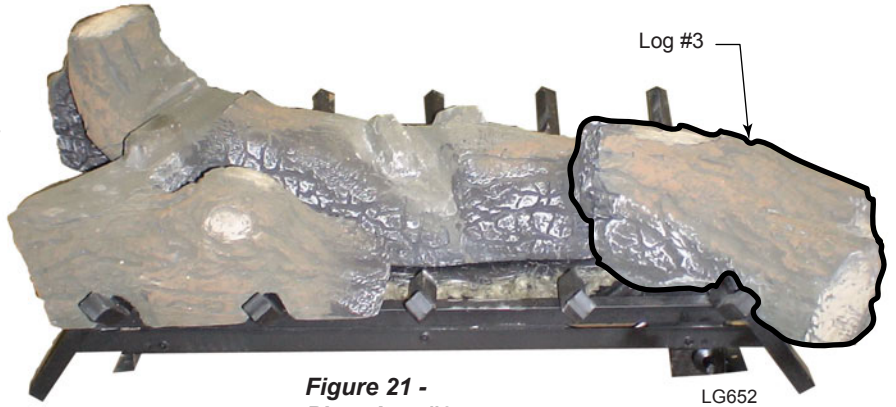

Figure 21 - Place Log #3
3. Place log #3 on farthest right grate tine by aligning the 'V' notch in log with grate tine. The groove in the bottom of the log should sit on the filler bracket surrounding the pilot assembly. *Figure 21*